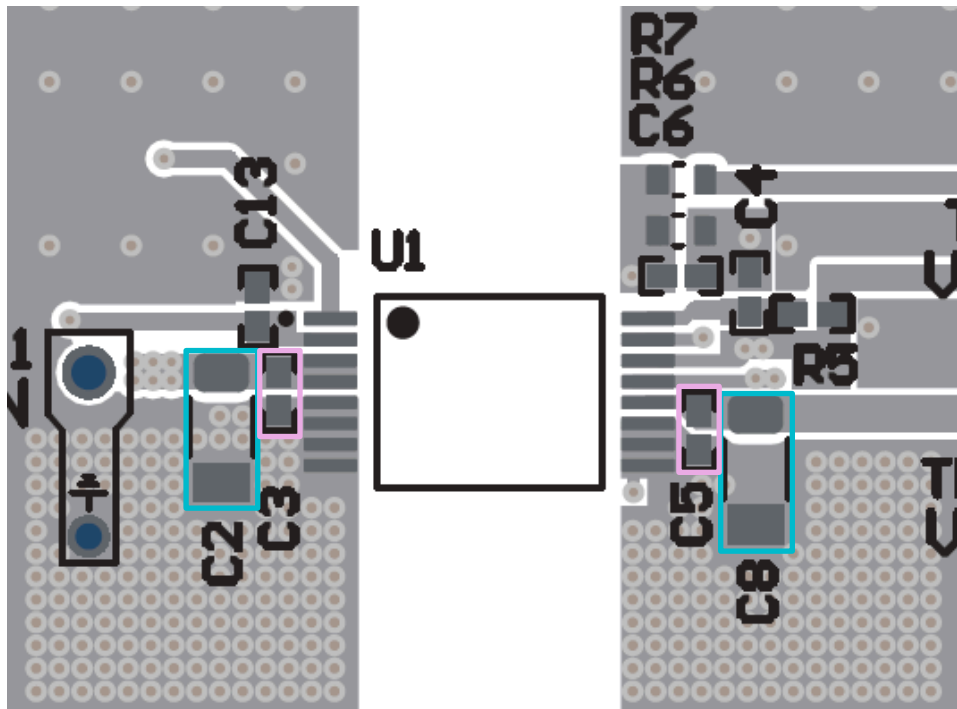

Figure 8-5. VIN (C2, C3) and VDD (C5, C8) Capacitors
- b. Place the bulk VIN capacitor(s) (C2) as close as possible and parallel to the 0.1 $\mu$ F high frequency bypass capacitor (C3) and on the same side of the PCB as the IC as shown in Figure 8-5.
2. Power good pin decoupling capacitor: The decoupling capacitor should be placed close to pin 2 (power good pin) and on the same side of the PCB as the UCC34141-Q1. Refer to C13 placement shown in Figure 8-5.
- b. Place the bulk VDD-COM capacitor (C8) as close as possible and parallel to the 0.1 $\mu$ F high frequency bypass capacitor (C5) and on the same side of the PCB as the IC as shown in Figure 8-5.